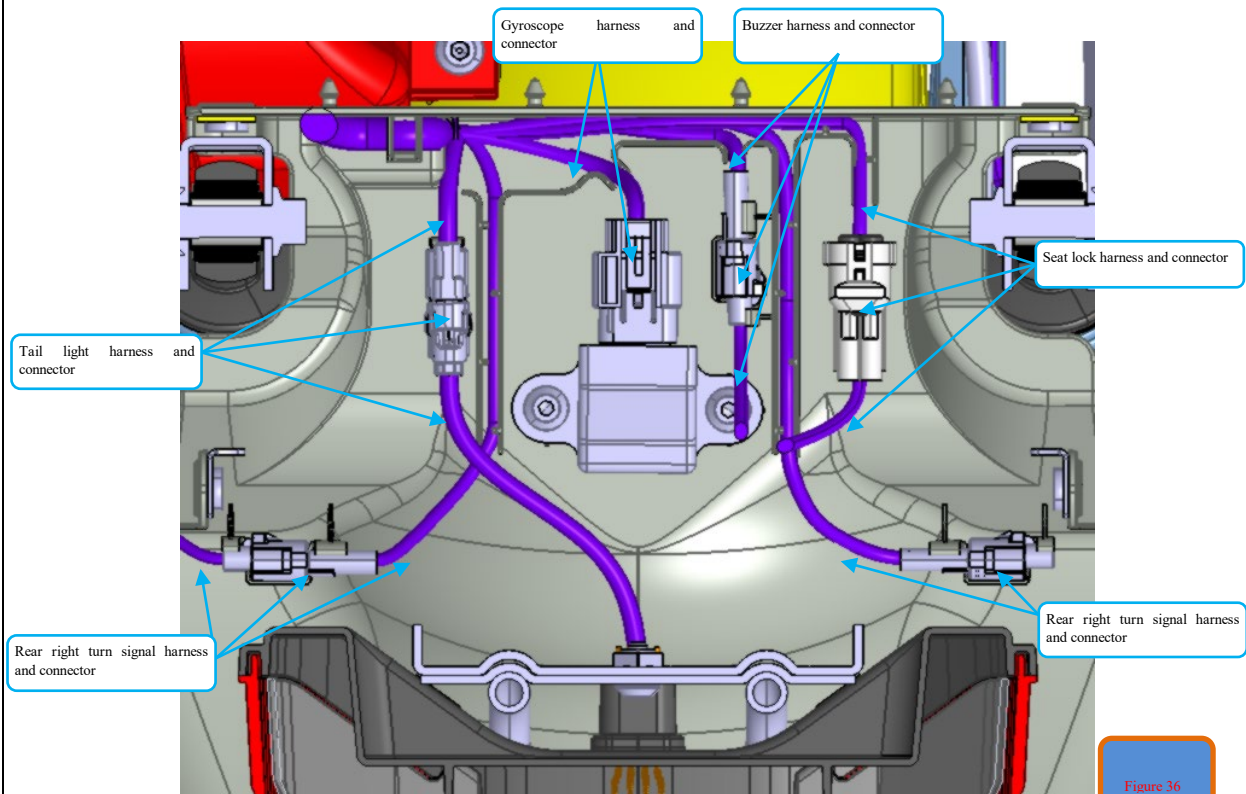

Figure 36
14. The rear harness consists of the rear turn signal harness, tail light harness, gyroscope harness, seat lock harness, and buzzer harness; secure each connector and harness to its designated snap-in position as shown in Figure 36.